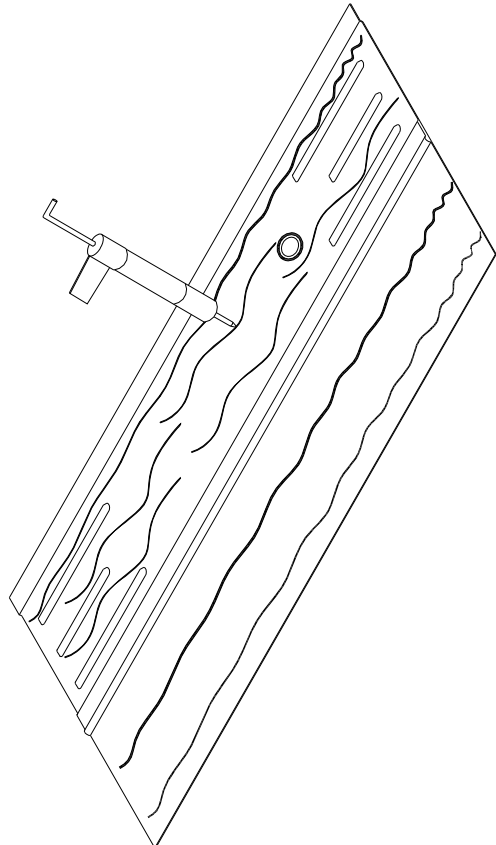

Fig 8
7. Apply a wide bead of silicone down the area where the second panel will rest. Run a bead of silicone along the panel (make sure silicone is applied around the cut out holes). See Fig 8 for details.